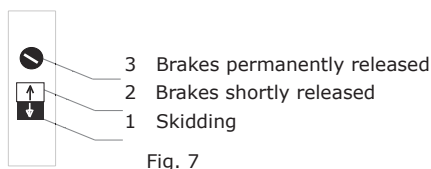

Fig. 7
- Press the white push-button (2) Fig. 7 to undo the safety brake.
- Press the black push-button (1) Fig. 7 to engage the brake and allow the rope to spool off. If no spooling off occurs at this stage, you are probably missing sufficient operating pressure in your system. Remember that your driveline must be engaged for the hydraulic pump to actively power the spooling system.
- Should timber hook up on an obstacle (tree trunks, branches or roots) down the skidding route and skidding be discontinued due to insufficient pullforce to bypass the obstacle, a large pressure will build up into the rope leading to a risk of backlash during spooling off. In this case, you need to operate the white push-button (1) by quickly tipping on it several times.